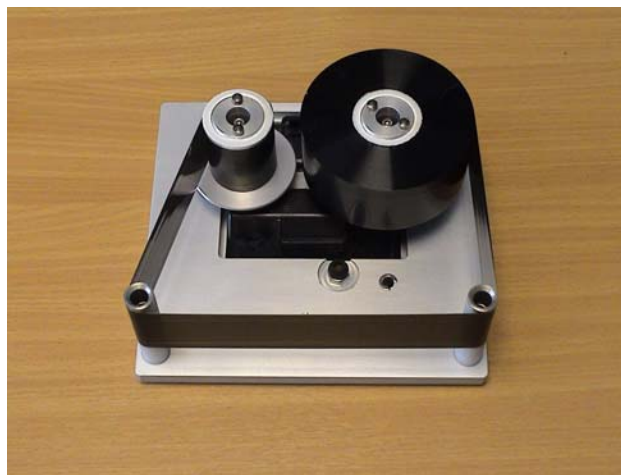

Figure 5-14: Ribbon Spool Routing
- 9 Turn the empty spool by hand to take up any excess ribbon. Stop turning the empty spool when the full spool starts to rotate (Figure 5-14).